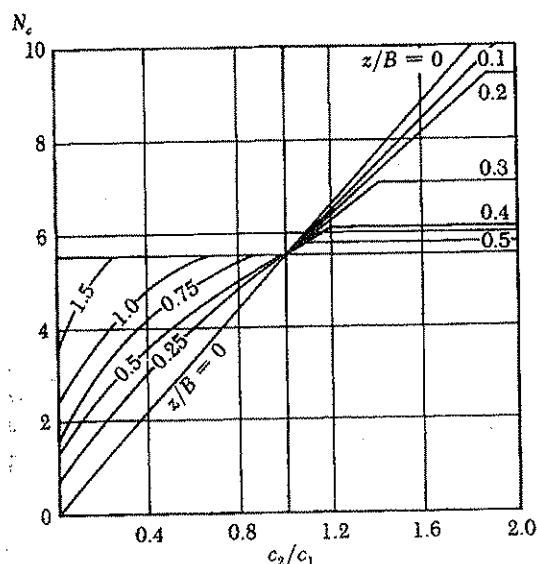

Figure 2. Bearing capacity on layered clay soils – $q = 0$ (Figure is redrawn after Reddy and Srinivasan, 1967)
You can see different soil layers and their modulus, E , values in Figure 2 of Poulos and Bunce (2008). Calculate the immediate settlement of the world's tallest building 1 year after construction, by making these assumptions:
- a) Using Schmertmann's method (Note: use the "Adopted small strain design E values" given in figure 2 of Poulos and Bunce (2008)).
Hint: For layered soils, the value of bearing capacity factor, N_c , is not a constant. It is a function of c_2/c_1 , where c_2 belongs to the bottom layer, and z/B , where z is the depth measured from the bottom of the foundation to the interface of the two clay layers (see Figure 2). The ultimate bearing capacity is given as:
From Figure 2 of Poulos and Bunce (2008) the soil profile is given below (Note that DMD means Dubai Municipality Datum):